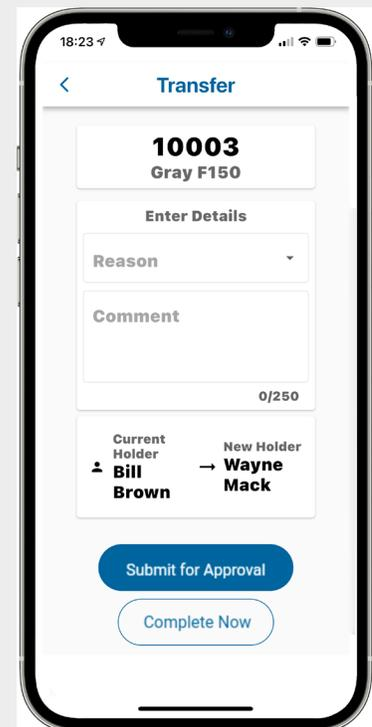

Fig. 127 – Transfer screen – Fill in transfer details and submit
8. Select a reason for the transfer from the **Reason** dropdown menu, as shown in Fig. 127.